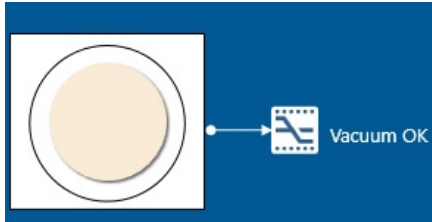
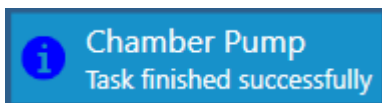

Figure 4-30 Process chamber successfully evacuated
Figure 4-31 Chamber pumping finished
- 5 When pumping is complete, the progress panel vanishes, the *Vacuum OK* status message displays (see Figure 4-30), and a **Task finished successfully** panel displays for a short time at the bottom right of the page, see Figure 4-31.